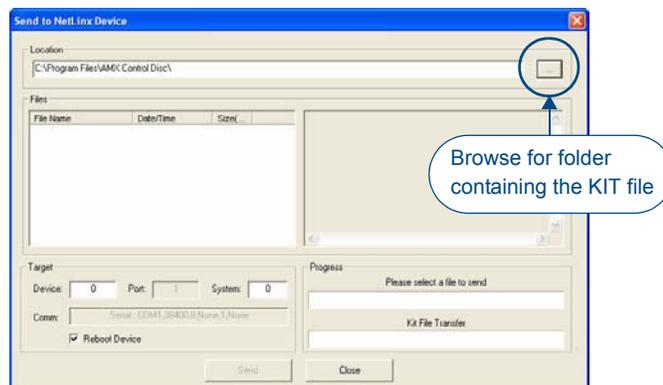

FIG. 101 Send To NetLinX Device dialog (NetLinX Studio)
2. In NetLinX Studio, choose **Tools > Firmware Transfers > Send to NetLinX Device** to open the Send to NetLinX Device dialog (FIG. 101).